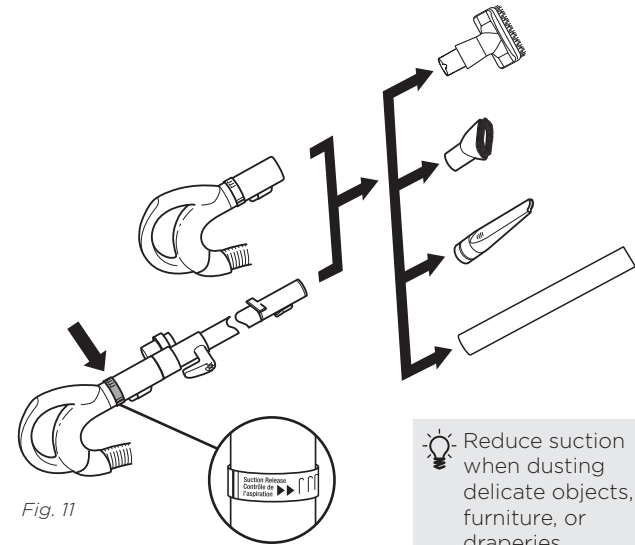

Fig. 11
- 2 Attach desired accessory onto the end of either the wand or the handle. (Fig. 11)
- 3 Increase or decrease suction by adjusting the suction release collar on the handle. To reduce suction for cleaning drapes or other delicate surfaces, rotate the collar counterclockwise. For more suction (and when using the Pet Power Brush) rotate the collar clockwise. (Fig. 11)